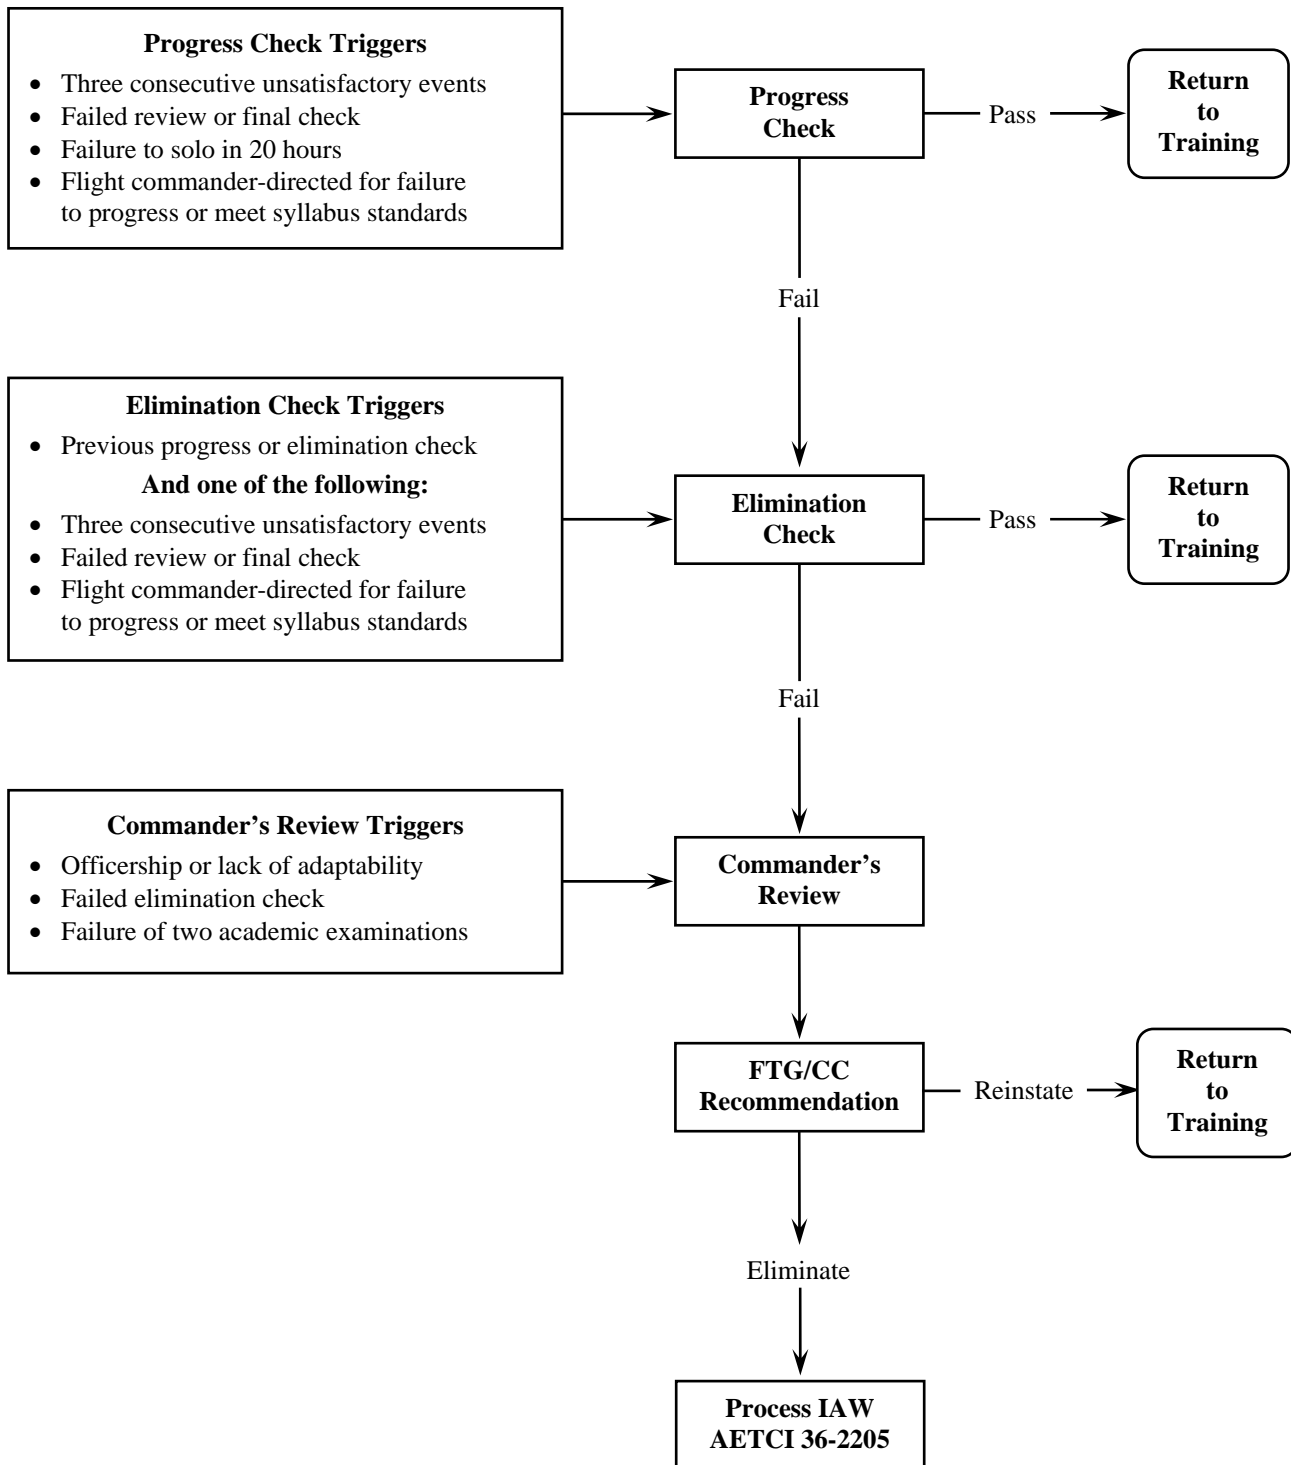

Figure 2-1 — Commander's Review Process
f. *Progress Check (PC)* — Figure 2-1 shows a list of PC triggers. AT sorties are optional prior to a PC, but are not required. The det/sqd commander may authorize each student up to two AT sorties before the PC. These sorties are not automatically given to every student, but are reserved for cases when the det/sqd commander feels some training irregularity or anomaly occurred and the student has demonstrated the potential to complete UFT. When assigning an overall grade, the PC pilot should consider the student's ability to complete the course within syllabus constraints as well as overall proficiency and situational awareness. The overall grade is NG or U. Document a PC as CX88 and include in the student's training folder. For progress checks successfully completed and flown as a result of the student not soloing in any unit, the PC pilot certifies the student is safe for solo and ensures the student is scheduled solo on the next syllabus sortie.
g. *Elimination Check (EC)* — Figure 2-1 shows a list of EC triggers. AT sorties are optional prior to an EC, but are not required. The det/sqd commander may authorize each student up to two AT sorties before the EC. These sorties are not automatically given to every student, but are reserved for cases when the det/sqd commander feels some training irregularity or anomaly has occurred and the student has demonstrated the potential to complete UFT. When assigning an overall grade, the EC pilot should consider the student's ability to complete the course within syllabus constraints as well as overall proficiency and situational awareness. The overall grade is NG or U. Document an EC as CX89 and include in the student's training folder. For elimination checks successfully completed and flown as a result of the student not soloing in any unit, the EC pilot certifies the student safe for solo and ensures the student is scheduled solo on the next syllabus sortie. A student who fails an EC is entered in the commander's review process according to AETCI 36-2205.
(1) The following table identifies check pilots and the types of checks they are authorized to administer. Designated individuals designated complete a checkout program and are certified by the det/sqd commander. Only highly qualified QAEs and CFIs may be certified as PC pilots.
(2) The objective of the Review is to have the student fly with a highly qualified instructor other than the primary instructor. The Review instructor ascertains the student's progress and readiness to solo.
(3) The objective of the final check is to ascertain a student's ability to adapt to military flying and complete UFT.
14. Commander's Review Process (CRP) — Figure 2-1 depicts the triggers and decision-making flow for progress checks, elimination checks, and commander's reviews. Students reinstated into training after a commander's review (CR) because of a flying deficiency must fly an elimination check following completion of the additional training sorties authorized in the reinstatement write-up.